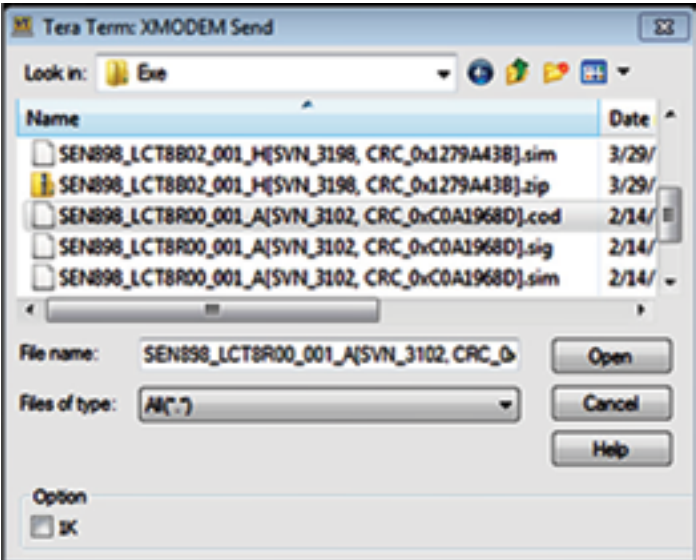
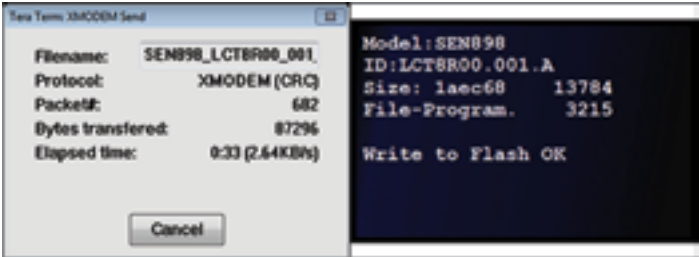

Figure 79: XMODEM send file selector
Figure 80: XMODEM Send status (left) and meter display file receive status (right)
- 6. When the Tera Term: XMODEM send file selector window opens (see Figure 79 on page 81), locate and select the .cod extension file from your PC. After selecting the .cod extension file, click open and the status window shown on the left in Figure 80 on page 81 opens. At this time, the meter display shows the file receive status (see the right of Figure 80 on page 81).